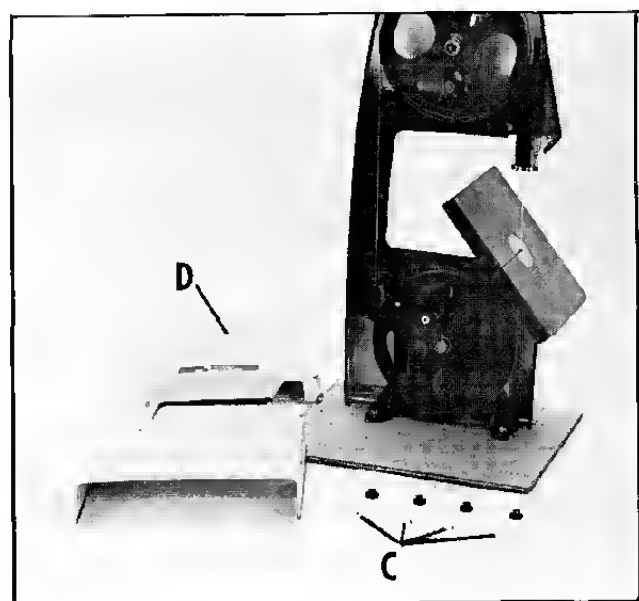

Fig. 2
2. Fig. 2 illustrates the knobs and washers (C) and front wheel guard (D) removed.
3. Remove the four hex nuts and washers holding the band saw to the cardboard base and lift the machine off the base. Two of the hex nuts and washers (E) are shown in Fig. 2.